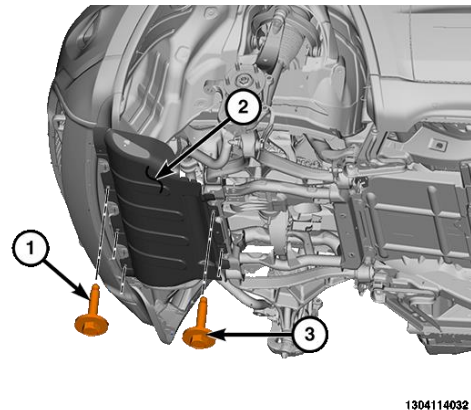

Figure 4 – Front Skid Plate
10. Remove the front skid plate on standard models by removing the front (1) and rear (3) bolts, then removing the front skid plate (2) (Figure 4).